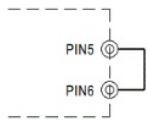

Fig. 4.1 Insert the CN1
1. Insert the shorting connector on CN1 that is shown in Fig 4.1, the Overload Protection Type will be “constant current limiting with delay shutdown after 3 seconds, re-power on to recover”. This is the factory default.